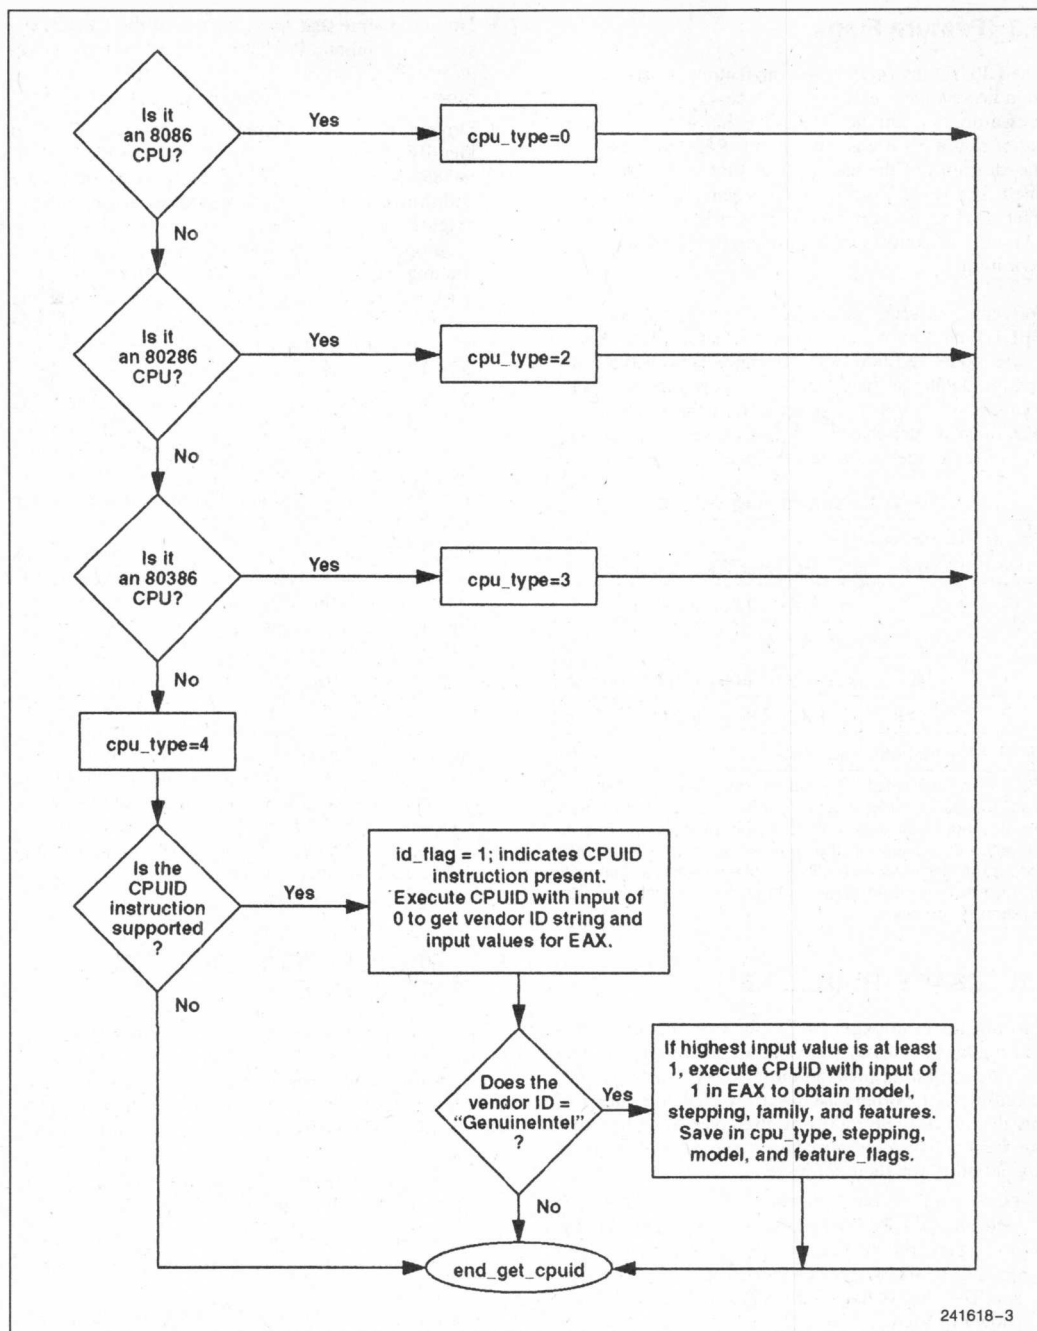

Figure 3. Flow of GET.CPUID Procedure
| Figure 3. Flow of GET_CPUID Procedure | 3-348 |
- get_cpuid** which identifies the type of CPU. Figure 3 shows the flow of this procedure.